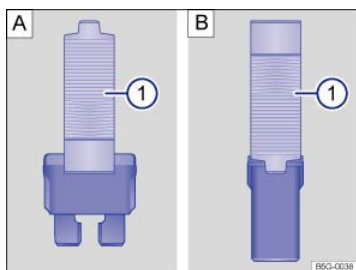

Fig. 209 Removing or installing a blade fuse with the plastic tweezers: : Blade fuse. : JCASE® fuse.
- Depending on the type of fuse, slide the tweezers ⇒ Fig. 209 A ① or ⇒ Fig. 209 B ① onto the fuse from the side.
- If the fuse is blown, replace the fuse with a new fuse of the *same* amperage (same color and same imprint) and *same* size ⇒ ①.